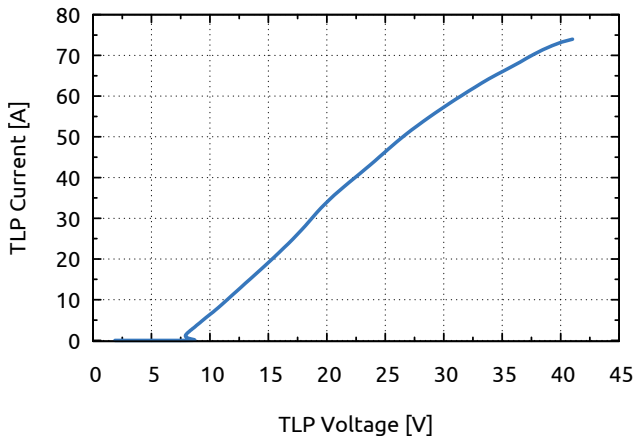
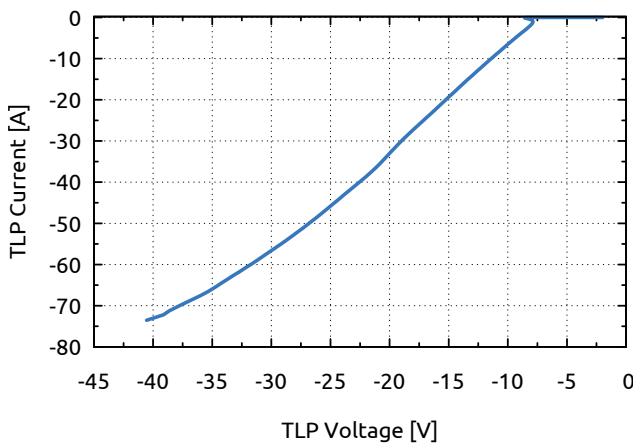
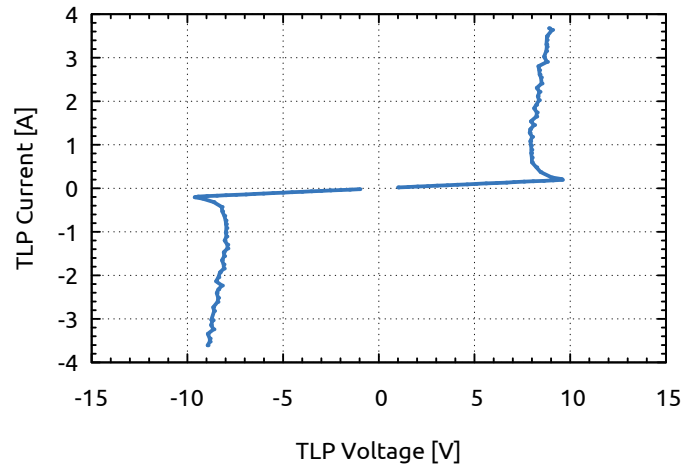

Figure 4: Typical positive clamping characteristic. TLP parameter: 50Ω , 100 ns pulse width, 0.6 ns rise time, 70 ns to 90 ns averaging window.
Figure 5: Typical negative clamping characteristic. TLP parameter: 50Ω , 100 ns pulse width, 0.6 ns rise time, 70 ns to 90 ns averaging window.
Figure 10: TLP test result with setup shown in Fig. 9.
Fig. 4 and Fig. 5 show the high current clamping characteristics of the TVS-70MF-10 for positive and negative polarities. The device can absorb energies up to ± 25 kV according IEC 61000-4-2 with $R = 330 \Omega$, $C = 150$ pF at contact discharge. Please note, that at >100 ns TLP pulse width the energy absorption capability of the device is decreased significantly.
ratings of pulsed overstress at ESD/EOS condition. Therefore, HPPI cannot specify or guarantee any resulting level of protection. The resulting level of protection may be evaluated together with the oscilloscope vendor using the clamping characteristic of the TVS-70MF-10 shown in Fig. 4 and Fig. 5. The TVS-70MF-10 can be used from DC up to 6 GHz. Applying a DC voltage exceeding ± 5 V has to be absolutely avoided.
- Compare the measurement result with Fig. 10.
If the measurements according the above given description and those shown in Fig. 4, Fig. 5 and Fig. 10 differ significantly, please raise query with HPPI.